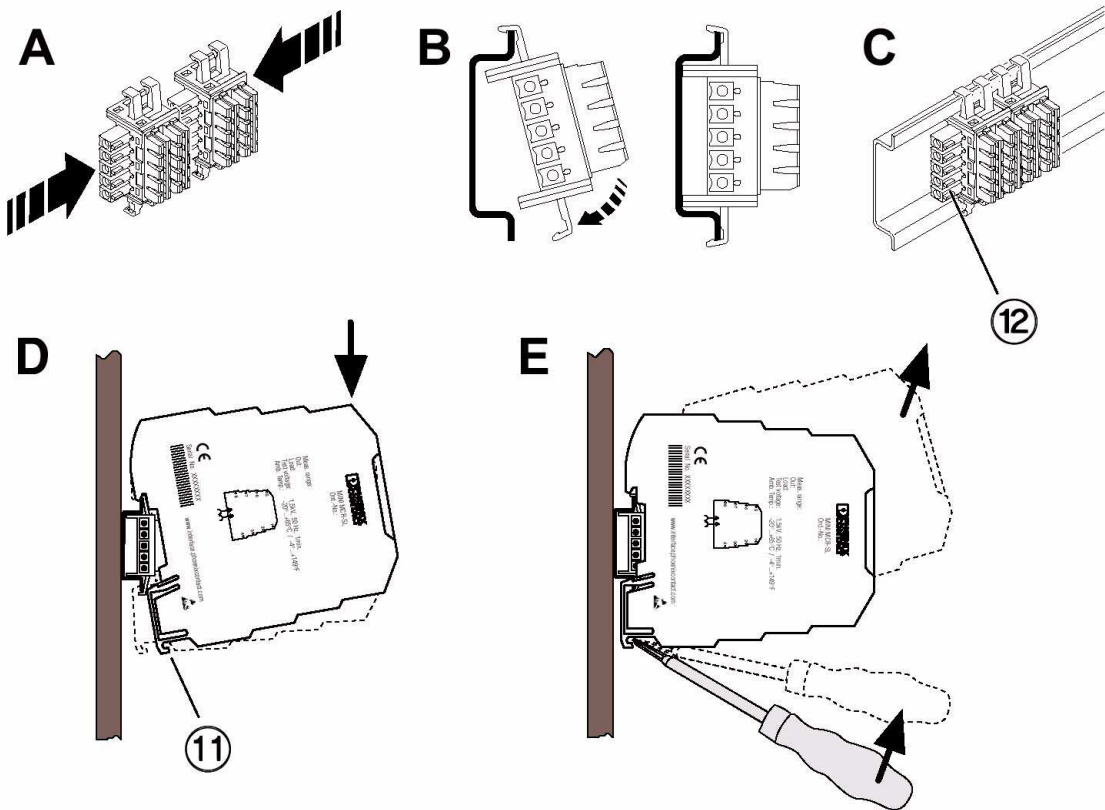

Figure 5 Mounting/removing
Snap-on foot (Figure 5, detail D 11) **below** and **plug** (Figure 5, detail C 12) **left!**
- First position the DIN rail connector in the DIN rail to bridge the voltage supply (see Figure 5).